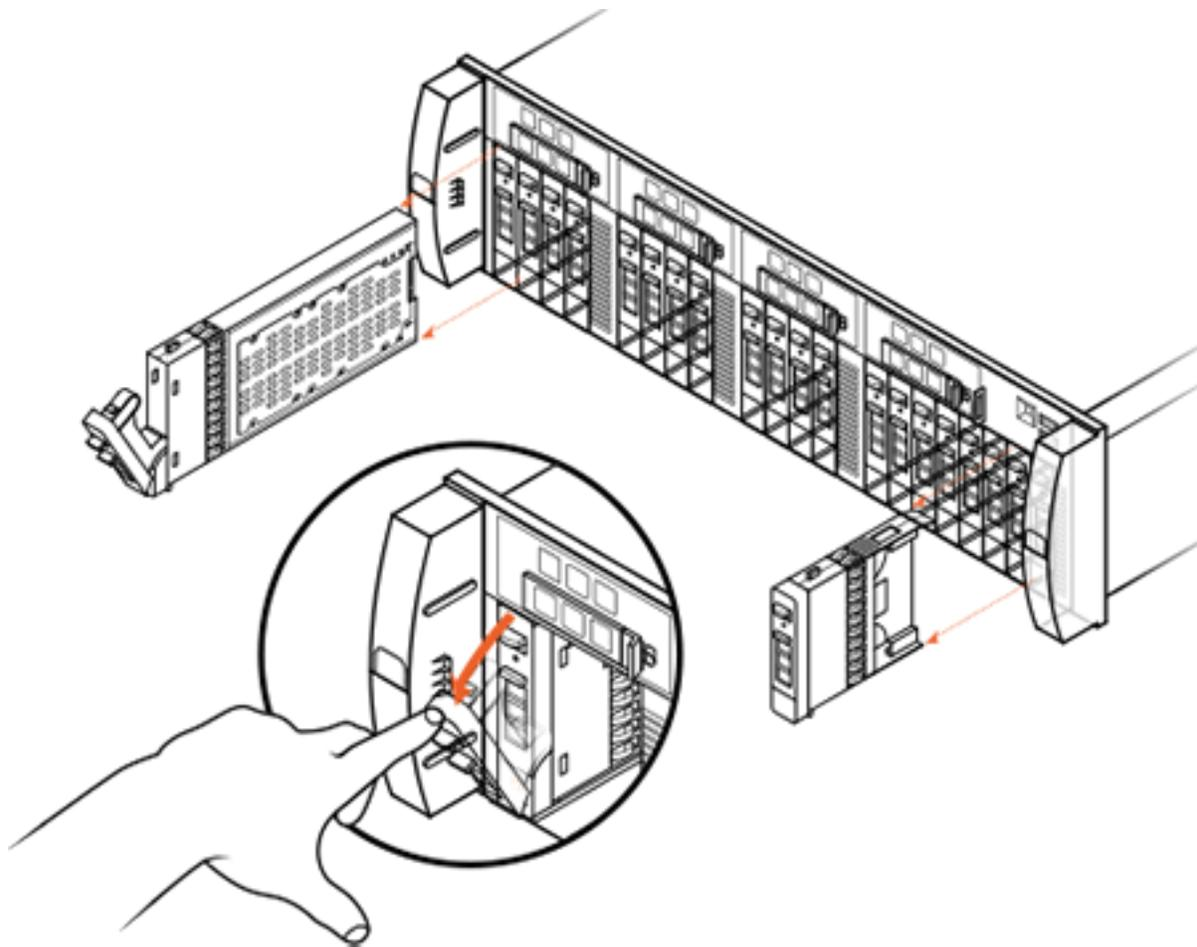

Figure 15-2. Removing Flash Modules and Blanks
2. To remove a Flash Module, press the clip with your thumb to unseat the module, and then gently pull it from the slot. See Figure 15-2.